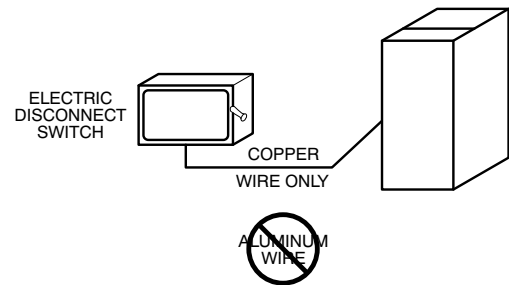

Fig. 33 – Field-Supplied External Electrical Box on Furnace Casing
Do not connect aluminum wire between disconnect switch and furnace. Use only copper wire. See Fig. 33.
1. Drill two (2) 1/8-in. (3 mm) pilot holes through the dimples in the furnace casing near the 7/8-in. (22 mm) knockout or plug on the side of the casing. Do not remove the knockout or plug in the side of the casing.
3. Install two (2) screws through the outside of the casing to secure the J-Box bracket to the furnace casing.
- Connect field power and neutral leads to furnace power leads inside the external electrical box as shown in Fig. 33.